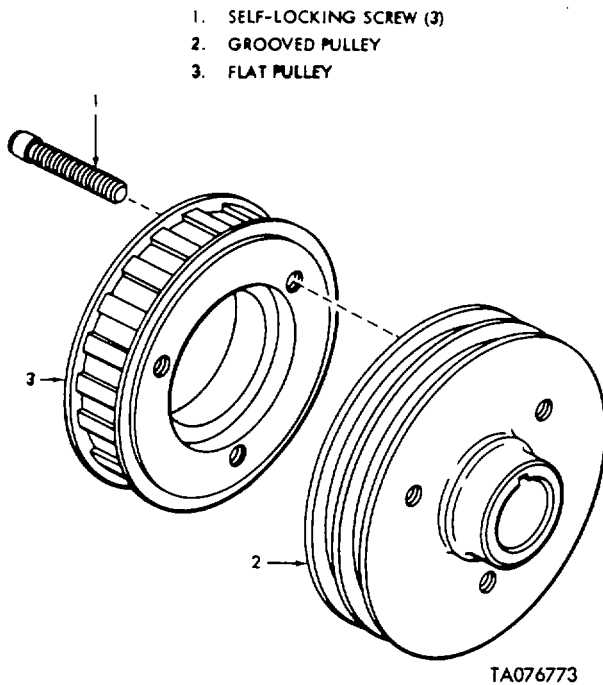

Figure 4-3. Drive Pulley Disassembly
- b. Disassembly (fig. 4-3). Remove three self-locking screws (1) to separate the grooved and flat pulleys (3 and 2).